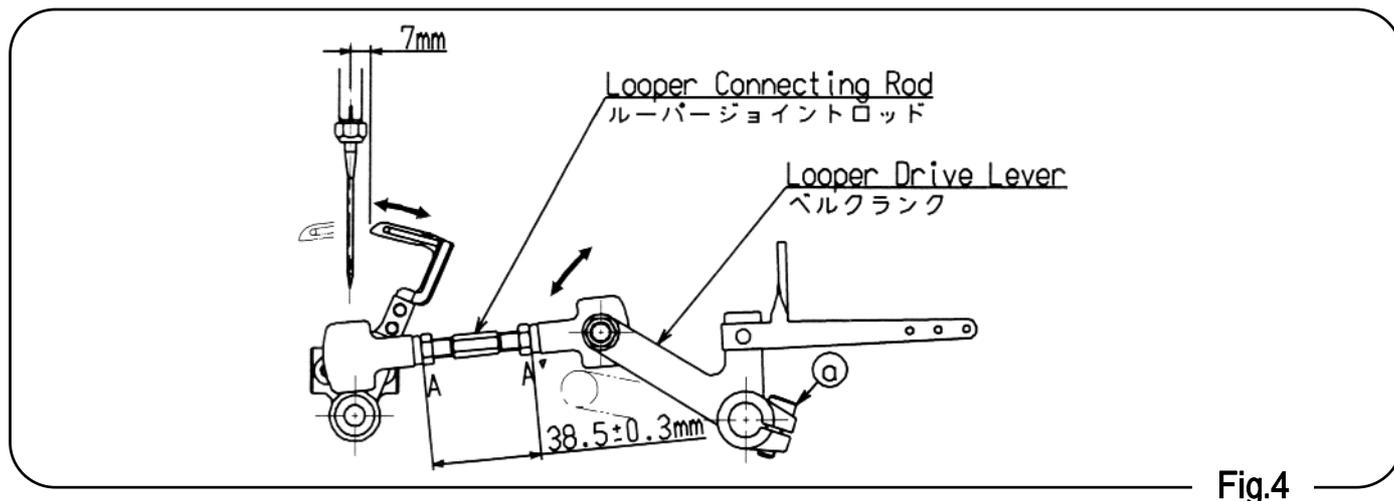
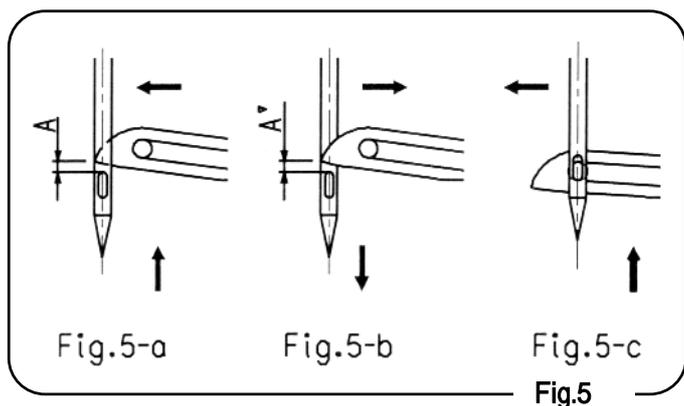
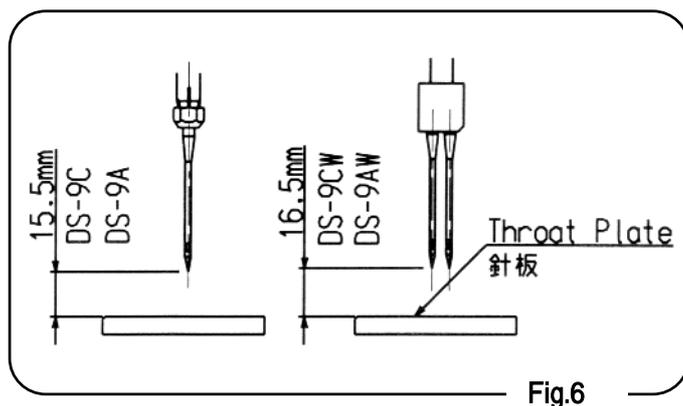

Fig.4
Fig.5
Fig.6
Presser foot pressure must be adjusted according to the material of bag and thickness. Check the reverse side of seams. The pressure is too strong if seams show a sign of scratches by feed dog teeth, or the actual stitch length is shorter than the preset feed rate of feed dog teeth. In this case, unscrew plate spring adjust screw(102171),Figure 4, after loosening nut (5/16N24301). Be sure to tighten the nut after the adjustment. If the pressure is too weak, seams do not form a straight line, or the stitch length is irregular. In this case, increase the pressure by screwing the plate spring adjust screw. Decrease the pressure when closing jute and other heavy bag material, and increase it when closing PP woven cloth and other light bag material. Your machine is adjusted for 3-ply kraft paper bags at the factory.
Turn the pulley in the forward direction and adjust the bell crank so that the end of the looper is 7mm away from the needle center when the needle is in the most retracted position, as shown in (Fig.4). The distance between the nut (outside) of Looper Connecting Rod must be $38.5 \pm 0.3\text{mm}$. (Fig.4)
Needle and looper movements are correctly timed if distance (A and A' of Fig.4) between Looper point and Needle hole when Looper points gets in line with left-side edge of Needle is the same as Looper passes Needle in forward and backward movements. $A=A' \pm 0.3\text{mm}$ is allowable. Adjust by lightly tapping the looper Drive Lever. Looper eyelet should overlap with lower part of oval hole of Needle, as shown in (Fig.5-c.) as looper goes forward. Adjustment can also be done by loosening the set screw of the needle bar connecting stud and adjusting the height of the needle bar so that the end of the needle is 15.5mm from the upper surface of the throat plate as shown in (Fig.6).
あらかじめボールジョイントロッドの、図の距離(A-A)を $38.5\text{mm} \pm 0.3\text{mm}$ 以内にして取り付けてください。(Fig.4) ルーパーが最も後退したとき針芯とルーパの距離は 7mm です。
- ルーパーの先端と、針の穴の寸法が同じになるように調整します。ルーパを前進・後退させ、ルーパと針が交差するときに、ルーパの先端から針穴の寸法が同じになるよう($A=A'$)に調整してください。(Fig.5-a・b) $A=A' \pm 0.3\text{mm}$ は許容範囲です。
- $A=A'$ の寸法を確認した後で、(Fig.5-c)ルーパ穴の下面と、針穴の下面が一致するように、針棒抱きのネジをゆるめ、針棒の高さを調整してください。
- あらかじめ、(Fig.6)の通り針が最もあがったとき、針と針板の距離が 15.5mm になるように、針棒の高さを定めると、調整が容易にできます。